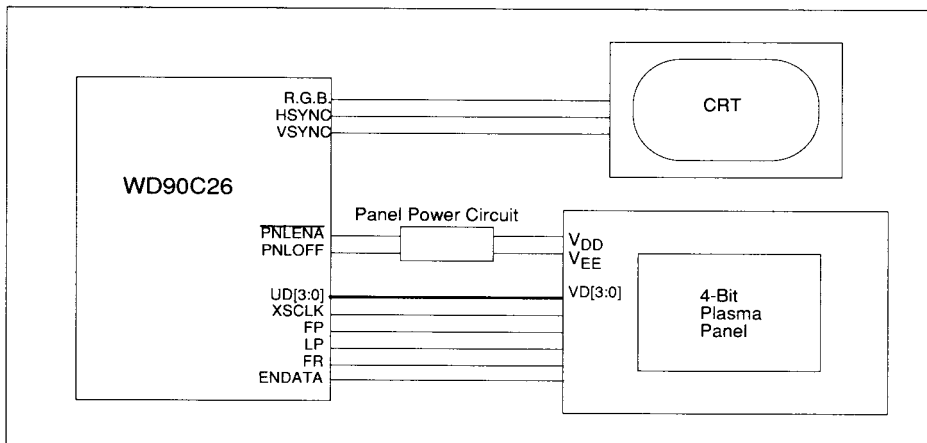

FIGURE 6-22 4-BIT MONOCHROME PLASMA PANEL INTERFACE
- 4-Bit Monochrome Plasma Panel Interface (Figure 6-22)